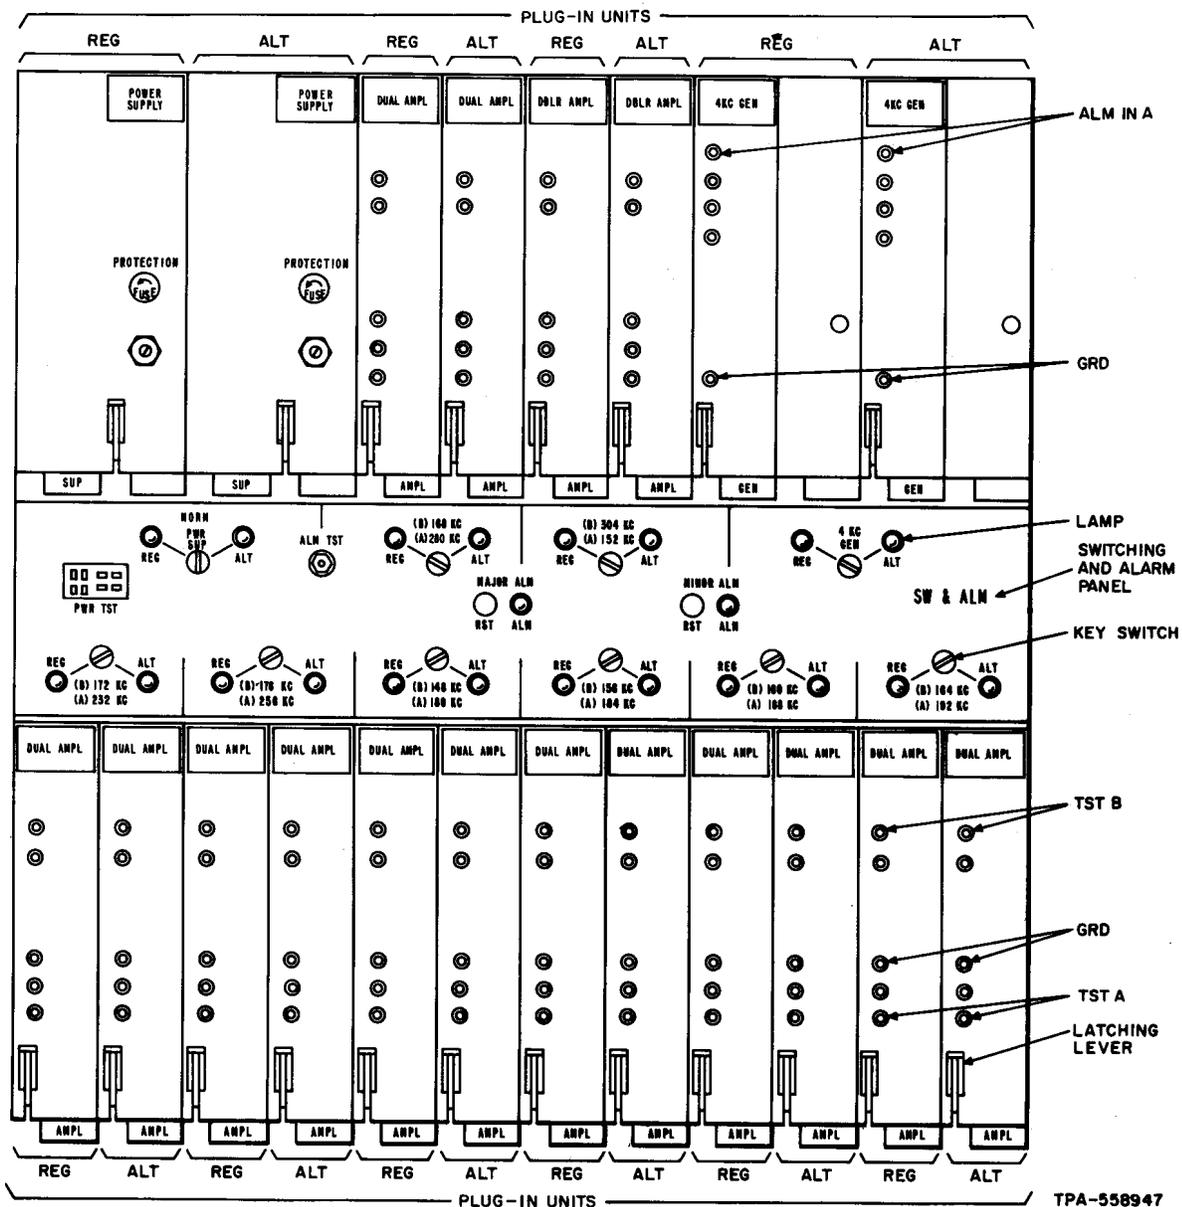

Fig. 1—N3 Carrier Frequency Supply—Switching and Alarm Panel and Location of Plug-in Units
1.01 This section describes the maintenance of the switching and alarm circuits which are located in the switching and alarm panel and in the relay transfer panel of the carrier frequency supply bay (see Fig. 1). These circuits work in conjunction with the sensing circuits located on each of the plug-in amplifiers, 4-kHz generators, and power supply units.
- (a) Plug-in units are installed in each regular and alternate shelf position (see Fig. 1).